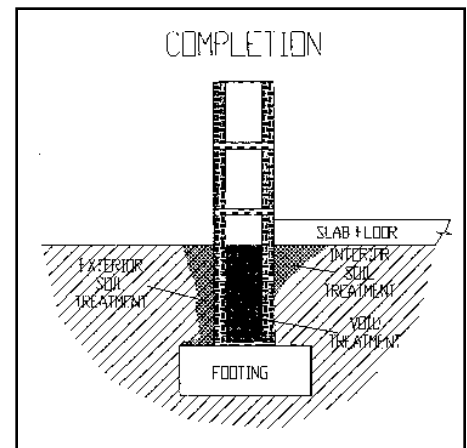

Figure 11. Block foundation treatment
This composite diagram (Figure 11) shows the total protection to the structure by thoroughly treating (1) the voids in the concrete block, (2) the soil in the sub-slab area at the expansion joint, (3) the soil around the outside perimeter of the building, and (4) the wood treated whenever there is an indicated need.